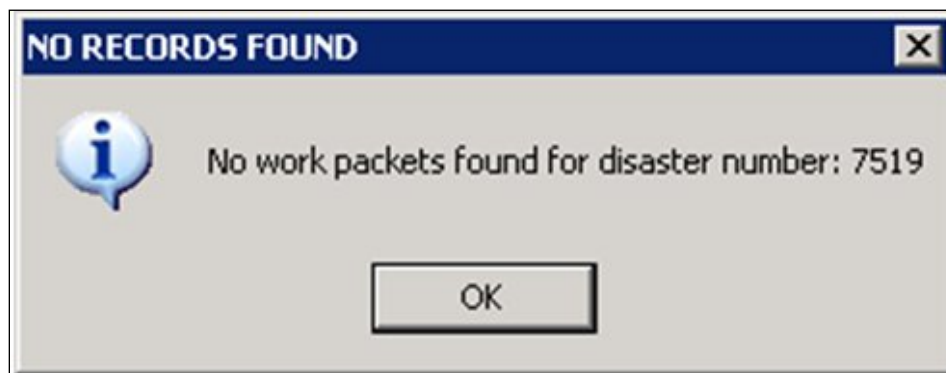

Figure 7-3: No Work Packets Found Message
2. If you see this message, the project applications for the disaster have not yet been submitted (Figure 7-3).